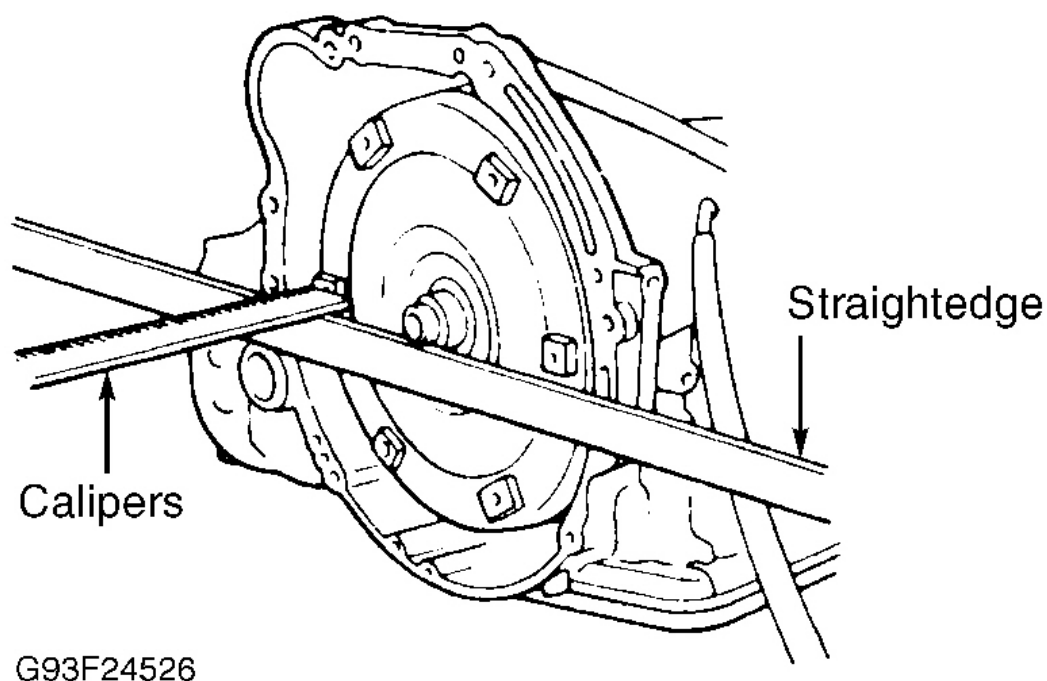

Fig. 44: Measuring Torque Converter Depth
25. Install torque converter on transaxle. Using a straightedge and calipers, measure torque converter installed depth. Distance should be .906" (23.00 mm) for Corolla, .787" (20.00 mm) for Prizm and .528" (13.40 mm) for Tercel. See **Fig. 44**.